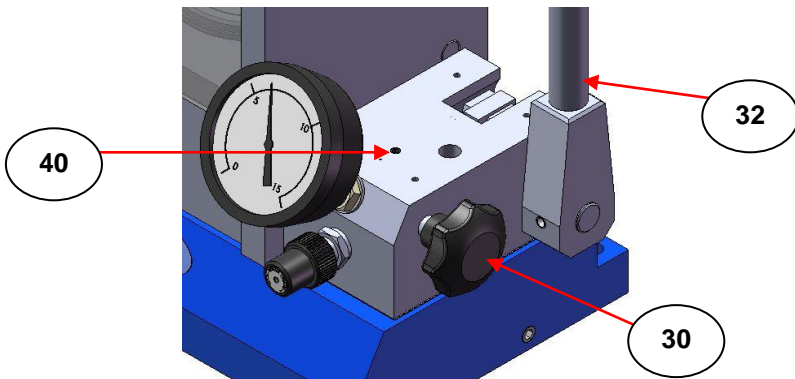

Fig 11. Bleeding Air from the Oil in the Pump Block Assembly
As the pressure tries to build up in the system, any trapped air in the pump block will start to bubble out from the opened oil bleed screw (40). Keep on pumping until the oil flows clearly, without bubbling. (See Fig 11.)